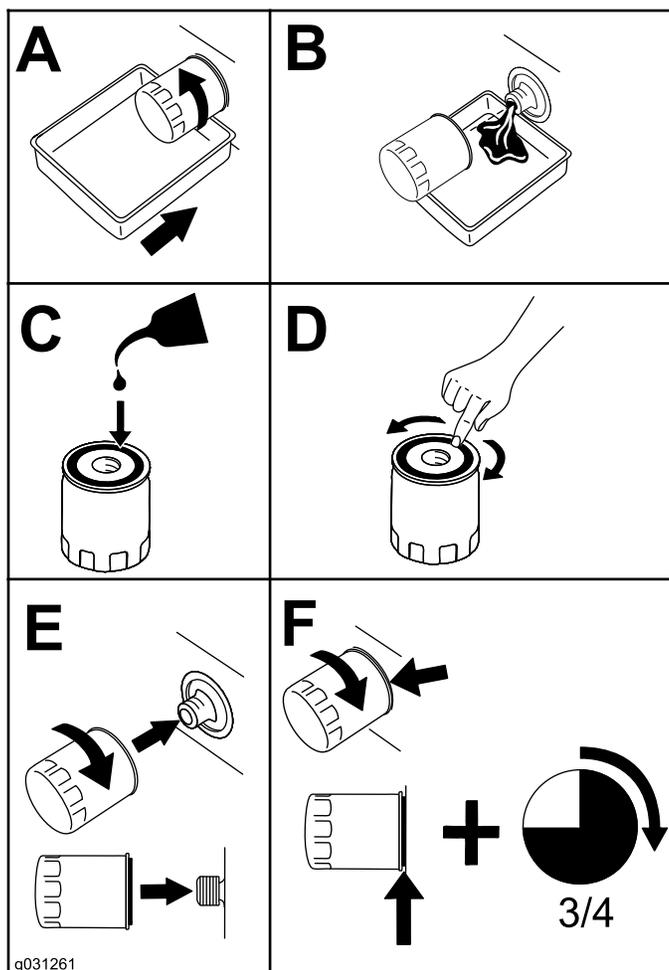

Figure 101
- Change the engine-oil filter (Figure 101).